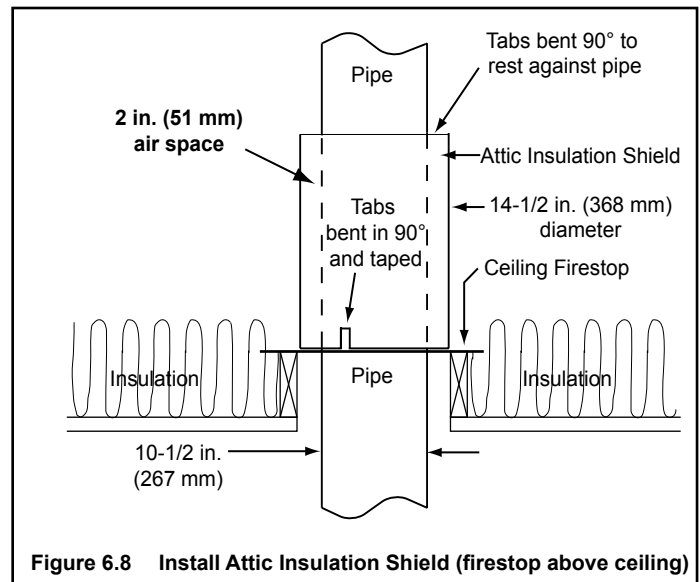

Figure 6.8 Install Attic Insulation Shield (firestop above ceiling)
- Bend the tabs on the bottom of the tube inward to 90° to maintain chimney air space (refer to Figure 6.8).